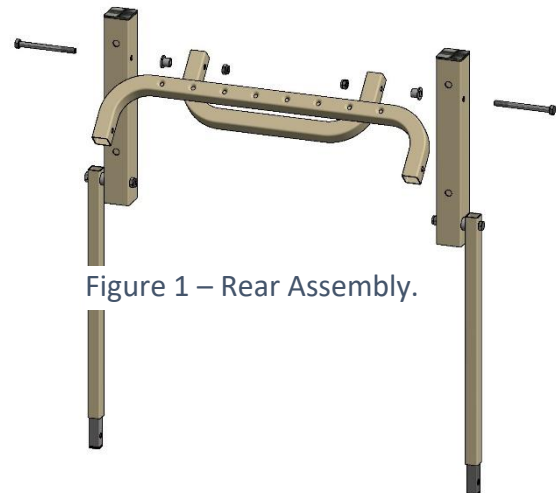

Figure 1 – Rear Assembly.
- Assemble the Pivot Arm as per Figure 1. Do not over tighten the bolts.